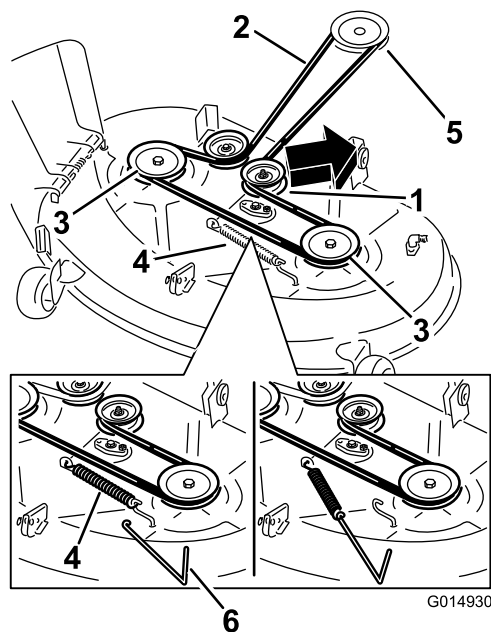
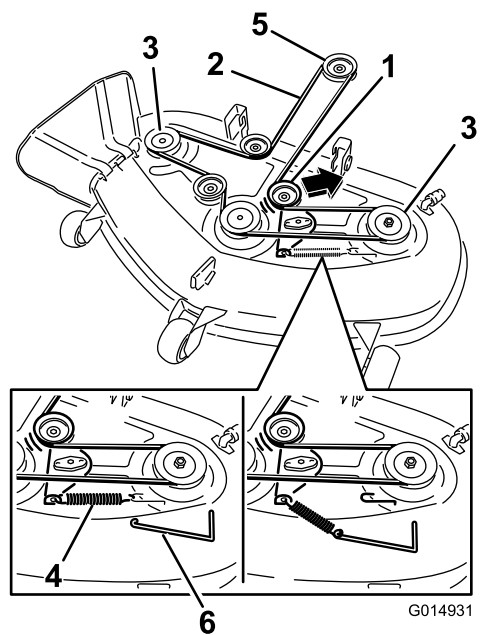

Figure 48
Figure 49
5. Using a spring-removal tool, (Toro Part No. 92-5771), remove the idler spring from the deck hook to remove tension on the idler pulley, and roll the belt off the pulleys (Figure 48 and Figure 49).
6. Route the new belt around the engine pulley and mower pulleys (Figure 49).
7. Using a spring-removal tool, install the idler spring over the deck hook, and place tension on the idler pulley and mower belt (Figure 48 and Figure 49).